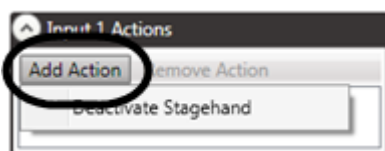

Figure 102
2. In the **Input (1, 2, 3 or 4) Action** section of the **FX Editing Pane**, click the **Add Action** button (Figure 102).